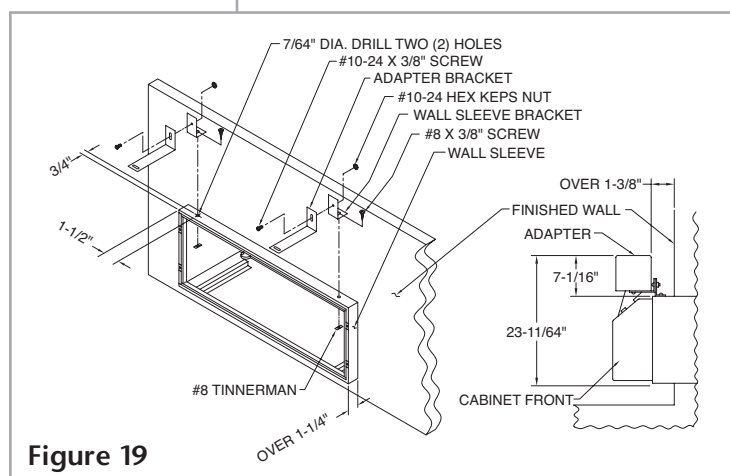

Figure 19
1. Assemble each adaptor bracket to the wall sleeve bracket with screws and nuts provided. (See Figure 19.)